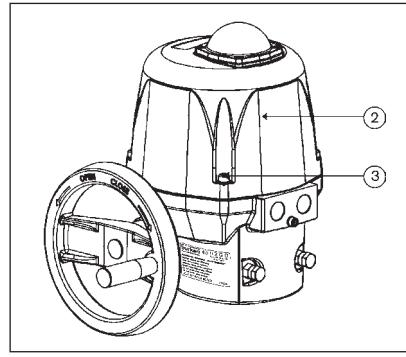

Figure 11: Removing hood
- Remove hood 2 by loosening the four fastening screws 3 (see "Figure 11").